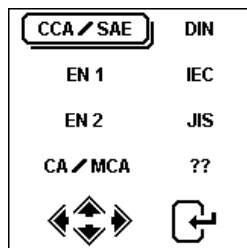

Fig.24
- Once the selection has been done, it will proceed to the display as shown below (Fig.24):